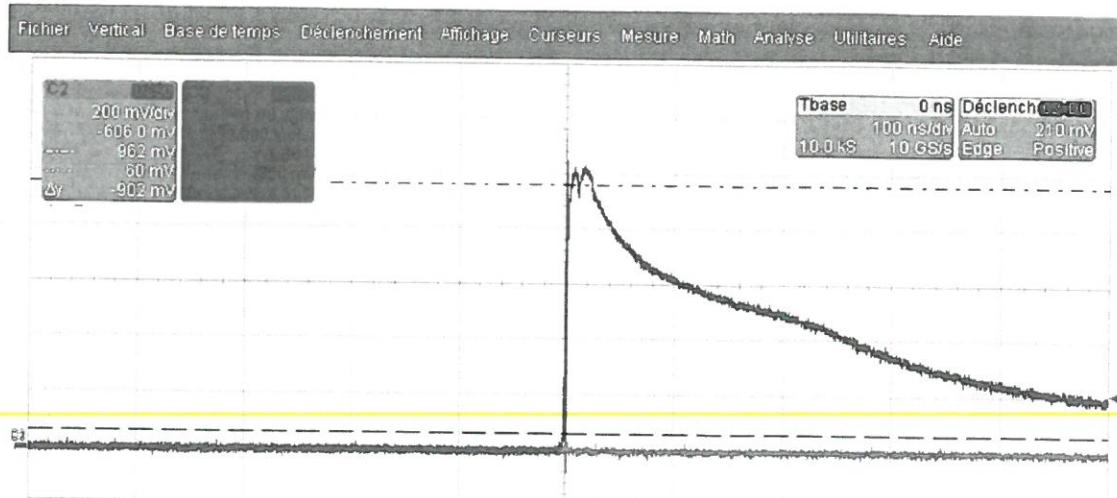

Figure 9: optical signal (pink) and synchronization output (blue) signals shape and relative delay
These lasers feature an extra photodiode output that can be used for synchronization or monitoring purposes. The synchronization output is directly conveyed from the built-in photodiode without any internal processing, so that the delay between the optical pulse and its electrical counterpart is a few nanosecond only, depending on the cable length. The synchronization pulse is TTL compatible, with a typical 100ns full width at 3V and >5V peak value (see figure 9 below)
- If you want to monitor the synchronization signal with an oscilloscope for instance, your oscilloscope input needs to be set to a 50Ohms input impedance (see fig.9)